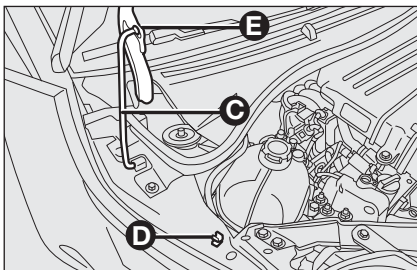

fig. 54
**To close fig. 54****Proceed as follows:**